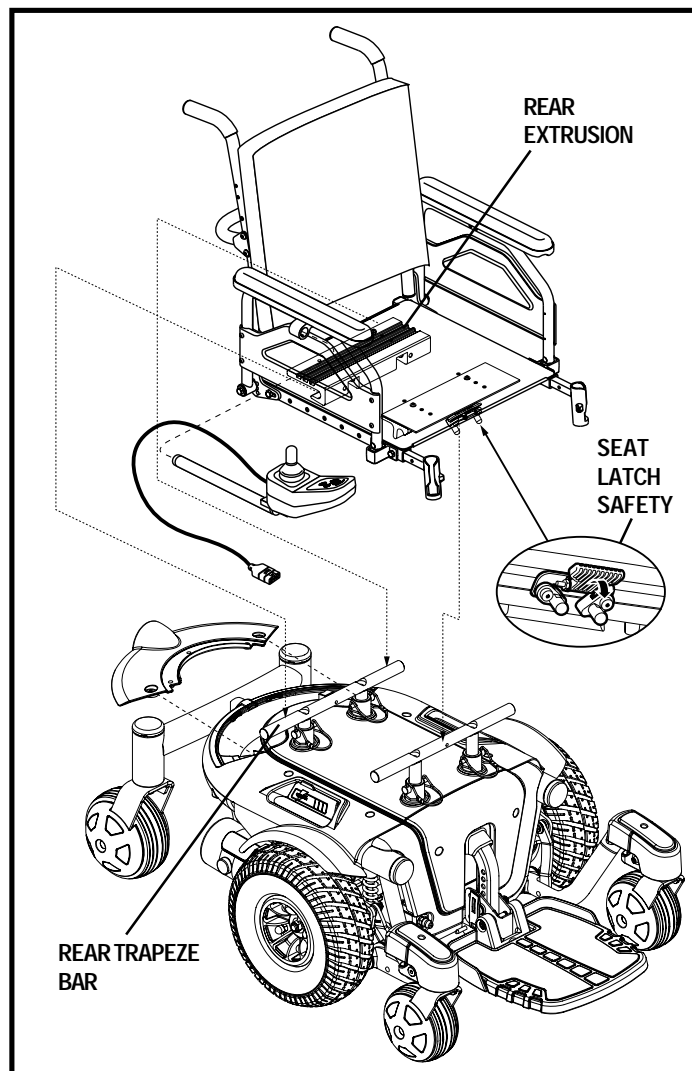

Figure 11. Universal Mounting System
It may be necessary to install the seat either prior to initial operation or after transporting your power chair. Most seats are attached to the power base with the Universal Mounting System (UMS). The UMS consists of universal parts that may be attached to any medium-back or high-back seat, regardless of seat width or seat depth. The two main components are aluminum extrusions mounted to the seat base. These extrusions attach to a pair of trapeze bars that are mounted to the power base. See figure 11.
1. Tilt the seat back and slide the rear extrusion onto the rear trapeze bar. See figure 11.
3. Flip the seat latch safety down. See figure 11.